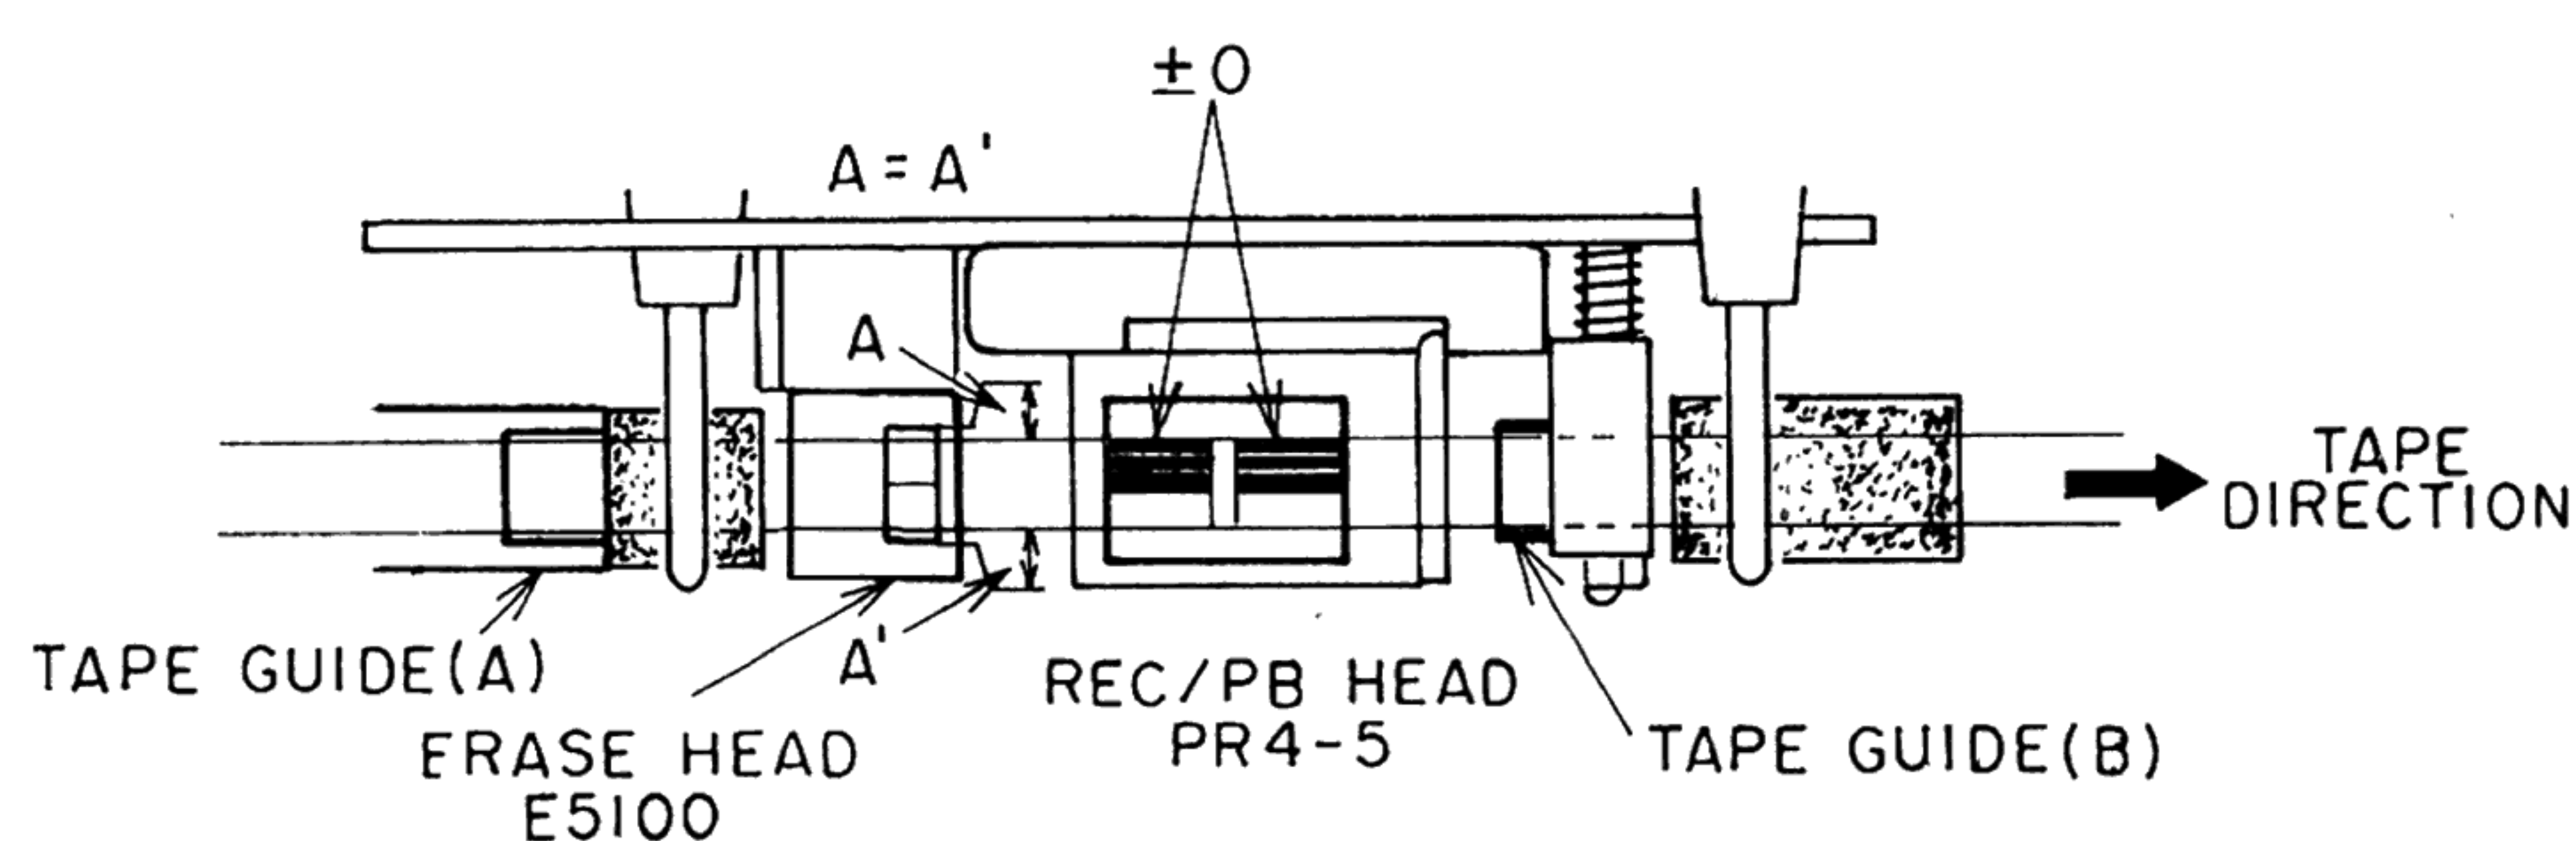

Fig. 6-2
- 2) Adjust the tape guide (A) so that the parts of the erase head coming out of both sides of the tape (A and A' in Fig. 6-2) will be equal. For the adjustment, use the adjustment nut (A).
- 3) Adjust the tape guide (B) so that the tape runs smoothly and is not hitched by the tape guide. For the adjustment, use the adjustment nut (B).
- 4) After adjustment, paint-lock the adjustment nuts (A) and (B).